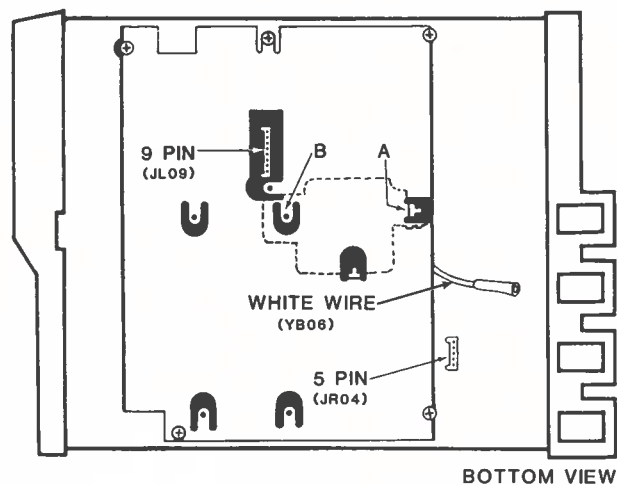

Figure 3. Tone Board Installation
The following instructions describe installation and alignment for both tone boards. Refer to Figure 3 for the installation location.
- a. Ensure that the tone board is installed in such a way that it is sitting atop the transceiver shield bracket (see Figure 3) with the component side up.
- b. Hook the TN22 tone board to the hook at point A so that the model number end can be screwed onto the tab at point B (see Figure 3).
- c. With a 2.6 mm self-tapping screw, secure the model end of the tone board to the tab at point B (see Figure 3).
- a. Ensure that the tone board is installed in such a way that it is sitting atop the transceiver shield bracket (see Figure 3).
- b. Hook the TN23 tone board to the hook at point A so that the model number end can be screwed onto the tab at point B (see Figure 3).
- c. With a screw, secure the model number end to the tab at point B (see Figure 3).